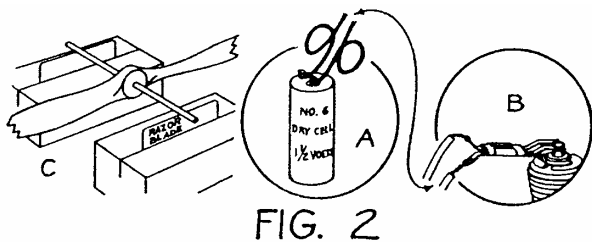

FIG. 2
4. Procure a 1 ½ volt dry cell battery, #6 or equivalent, and connect it with 2 flexible insulated wires to a glow plug clip as shown in the diagram A & B, Fig. 2. Do not use a stronger battery. If you do the plug will burn out. The connections should be soldered to ensure good contact and taped to prevent bare ends of wire from getting together and "shortening" the battery. Be sure the battery is a good one. Your dealer sells batteries, wire, and glow plug clips.
3. Connect the battery by snapping the clip on the glow plug, B, Fig. 2.
13. Always use a well balanced propeller. To check balance, mount propeller on razor blades as shown in Fig. 2. Sandpaper the heavy blade without spoiling the airfoil section.